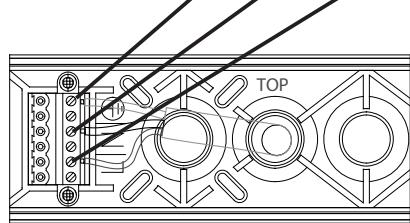

Fig. 5
Mains connection (L (U), N (0), PE) is to be established (fig. 5). Pay attention to a tight fit of the terminal screws!